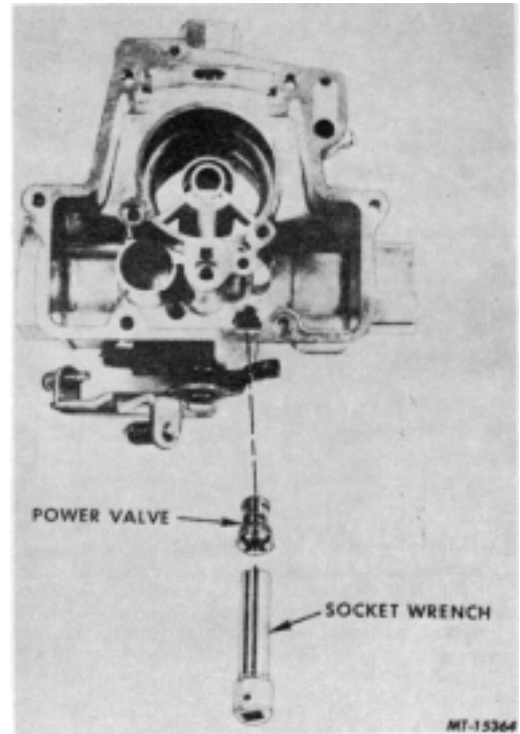

FIG. 17. Remove or Install Power Valve
4. Remove the power valve assembly with a proper socket or a 3/8" wide screwdriver blade with a 1/16" x 3/8" deep slot sawed in the center of the blade. The slot will clear the power valve stem and prevent damage (Figure 17).